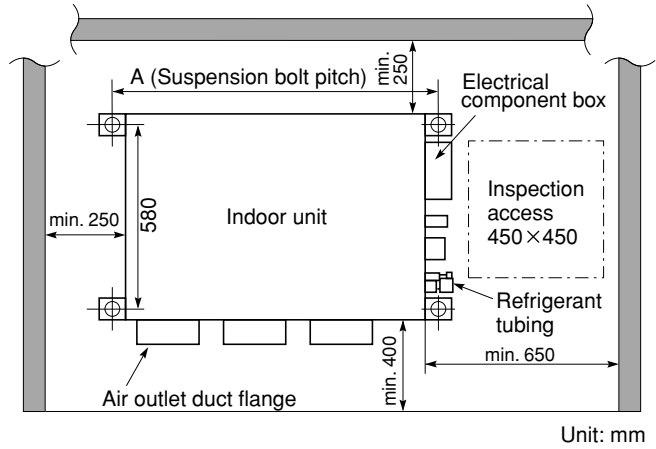

Fig. 3-82
- The minimum space for installation and service is shown in Fig. 3-82 and Table 3-4.
- (1) When placing the unit inside the ceiling, determine the pitch of the suspension bolts referring to the dimensional data on the previous page. (Fig. 3-82 and Table 3-5)